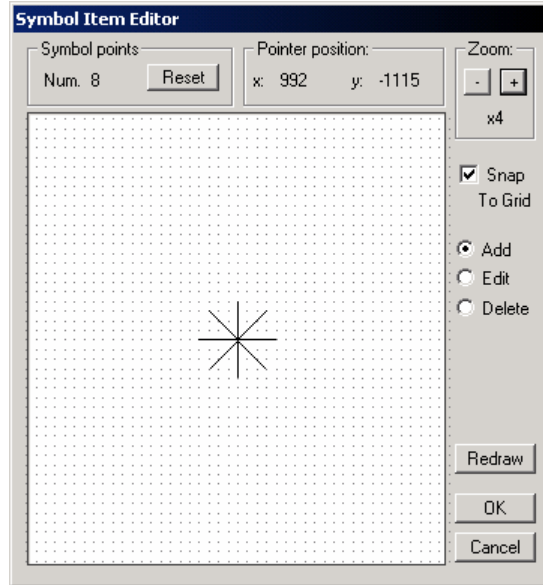

Figure 13.2: Symbol Item Editor
10. Draw two more lines that run diagonally as shown in Figure 13.2. Once you are done press OK.